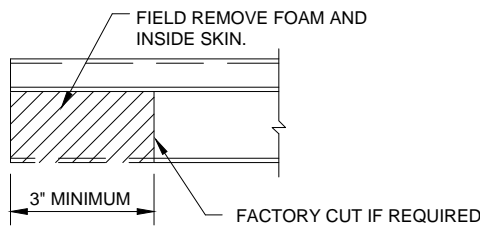

FIGURE 8
- 13.6 ALL WEATHER INSULATED PANELS THAT INCORPORATE END LAPS WILL ARRIVE AT THE JOB SITE WITH THE FOAM AND LINER FACE IN PLACE. THE LINER FACE OF THE UPPER WILL HAVE A FACTORY SAW CUT 3", 4" TO 6" UP FROM THE END PANEL, (SEE FIGURE 8). REMOVED THE 3" TO 6" INCHES OF METAL AND FOAM AT THE END OF THE PANEL. CAREFULLY REMOVE ANY FOAM THAT REMAINS ON THE METAL SKIN TO INSURE A POSITIVE AIR AND WATER INFILTRATION SEAL.